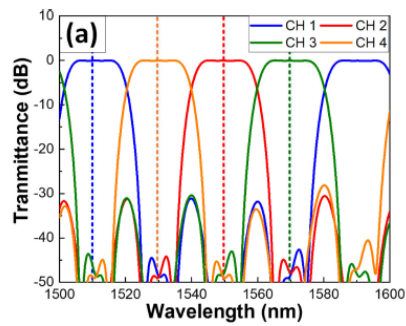

Figure 6(a)
3. Implement the phase condition as per **Equation (1)**.
6. Validate spectral alignment of outputs (Achieve transmission spectrum as shown in **Figure 6(a)**).